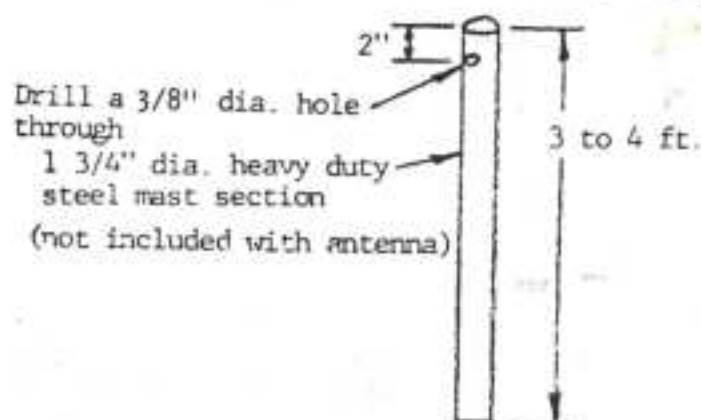

figure 10
- 10) The final steps in assembling the boom involve preparation of your mast section as shown in fig. 10 (this is the mast section that goes into the rotor), and installation of this mast along with the boom to mast plate on the boom. Figure 11 show the location of guy points on the boom, and height of the short mast section above the boom.